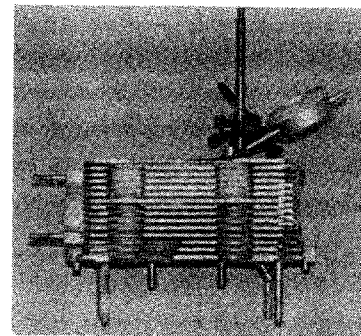

Figure 2
2. Using a suitable dial indicator with a flat-tipped extension pin, install the indicator in the holder. The dial indicator must be installed on the same plane as the head of the valve (see Figure 2).